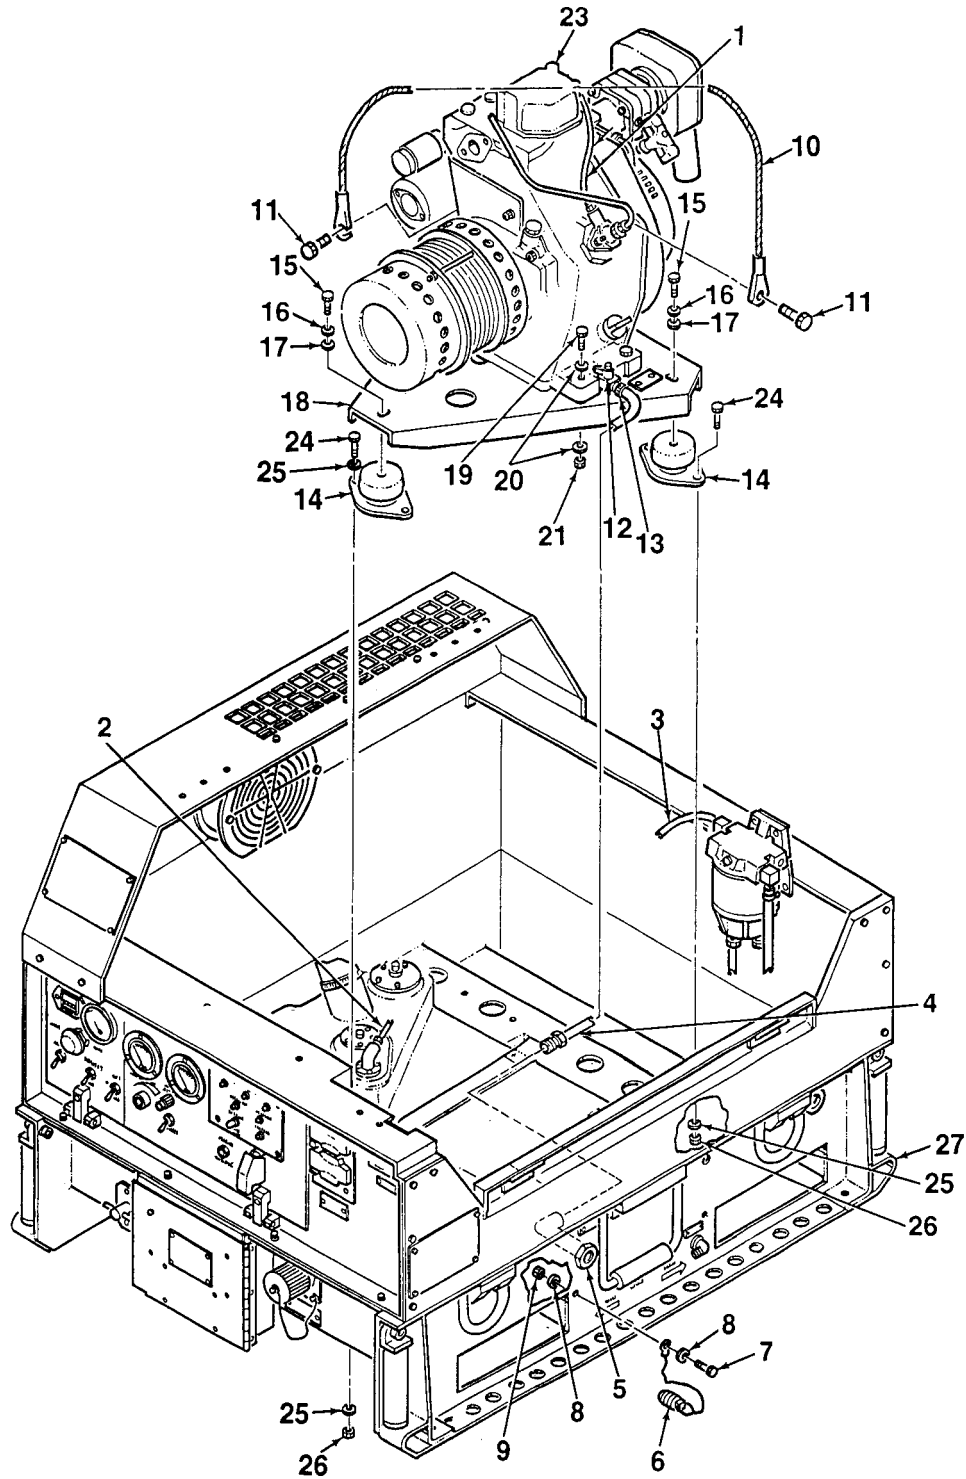

Figure 5-1. Engine / Alternator Assembly
3. Disconnect fuel return line (1, Figure 5-1) from fuel injector. Disconnect fuel line (2) from fuel tank to tee. Disconnect fuel line (3) from fuel filter / water separator outlet.
4. Disconnect oil drain line (4) from oil drain valve (12) by loosening clamp (13).